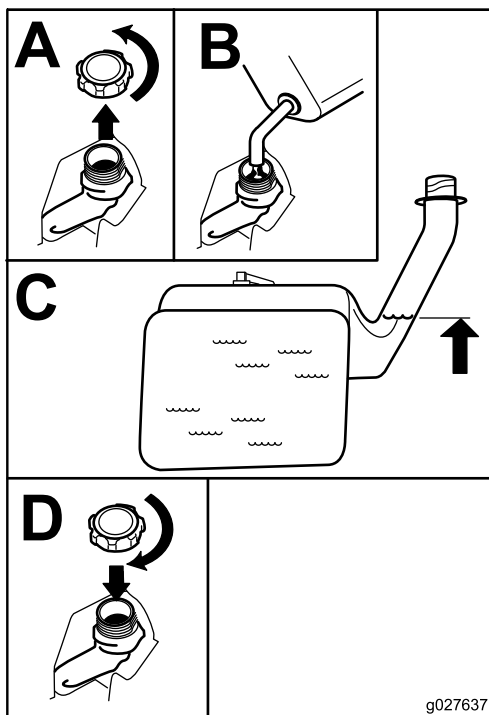

Figure 7
2. **Slowly** add regular, unleaded fuel until it reaches the base of the filler neck Figure 7.